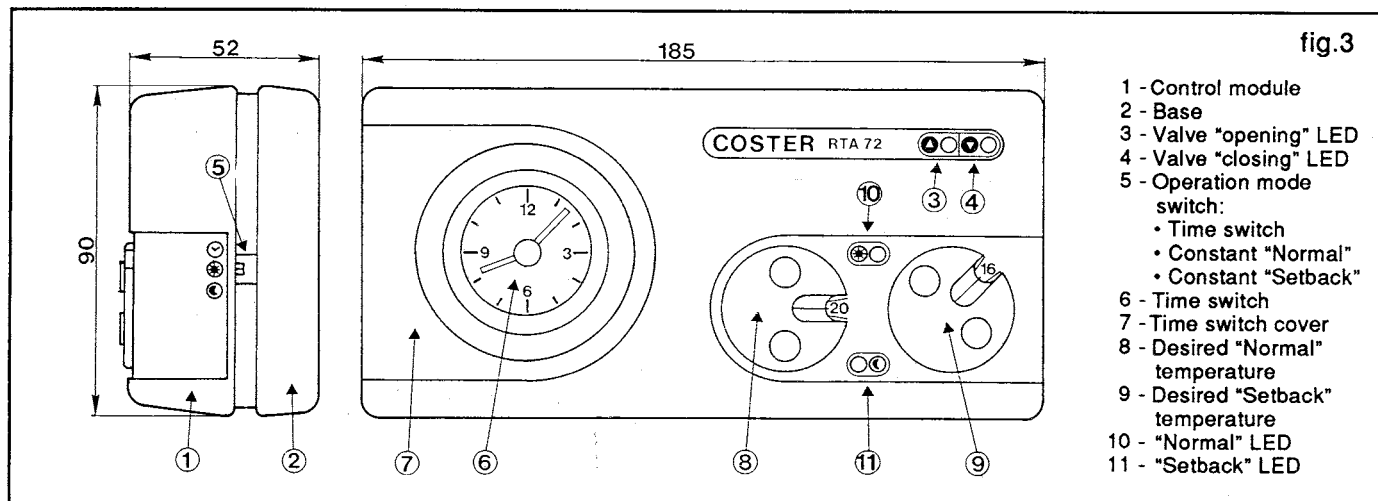

fig.3
The room temperature is monitored by a NTC sensitive element inside the controller (fig. 6, B), or, in the models specifically requested, by a remote room sensor (fig. 7). The controller compares the real value of the room temperature with the desired "Normal" and "Setback" temperatures set by means of the two potentiometers situated on the facia (fig. 3, 8) and (fig. 3, 9). In the event of a difference, the controller produces a modulating signal with PI control action, for the control of the valve Y, proportional to the difference itself and to the proportional band (+/- 1°C).
- Base (fig. 3, 2), in plastic, suitable for wall mounting, consisting of:
- Control module housing printed circuit and electronic components. On the facia are located the setting controls, the LED indicators and the time switch; on the right-hand side is the operating mode selection switch (fig. 3, 5).
- "Normal" temperature, for periods when the premises are occupied, by means of the "Sun" potentiometer (fig. 3, 8).
- "Setback" temperature, for periods when the premises are unoccupied, and at night, by means of the "Moon" potentiometer (fig.3, 9).
- The adjustment range of the desired temperature can be limited by means of the two pins (fig.4, 5) housed in the base at the side of the terminal block. Pull out the potentiometer knobs (fig.3, 8) and (fig.3, 9) and, using the probe, insert the pins in the holes corresponding to the temperature limits (maximum and minimum).
- Set the operating times of the plant on the time switch and position the operation mode switch (fig.3, 5) on "Time switch".
- Set the "Normal" temperature potentiometer (fig.3, 8) on maximum and the "Setback" temperature potentiometer (fig.3, 9) on minimum.
The result should be: valve opening and LEDs (fig.3, 3) and (fig.3, 10) lit.
The result should be: valve closing and LEDs (fig.3, 4) and (fig.3, 11) lit.
- Position the switch (fig.3, 5) on "Sun". The LED (fig.3, 10) should be lit.
With the potentiometer (fig.3, 8) at maximum the result should be: valve opening and LED (fig.3, 3) lit. With the potentiometer at minimum: valve closing and LED (fig.3, 4) lit.
- Position the switch (fig.3, 5) on "Moon". The LED (fig.3, 11) should be lit.
With the potentiometer (fig.3, 9) at maximum, the result should be: valve opening and LED (fig.3, 3) lit. With the potentiometer at minimum: valve closing and LED (fig.3, 4) lit.